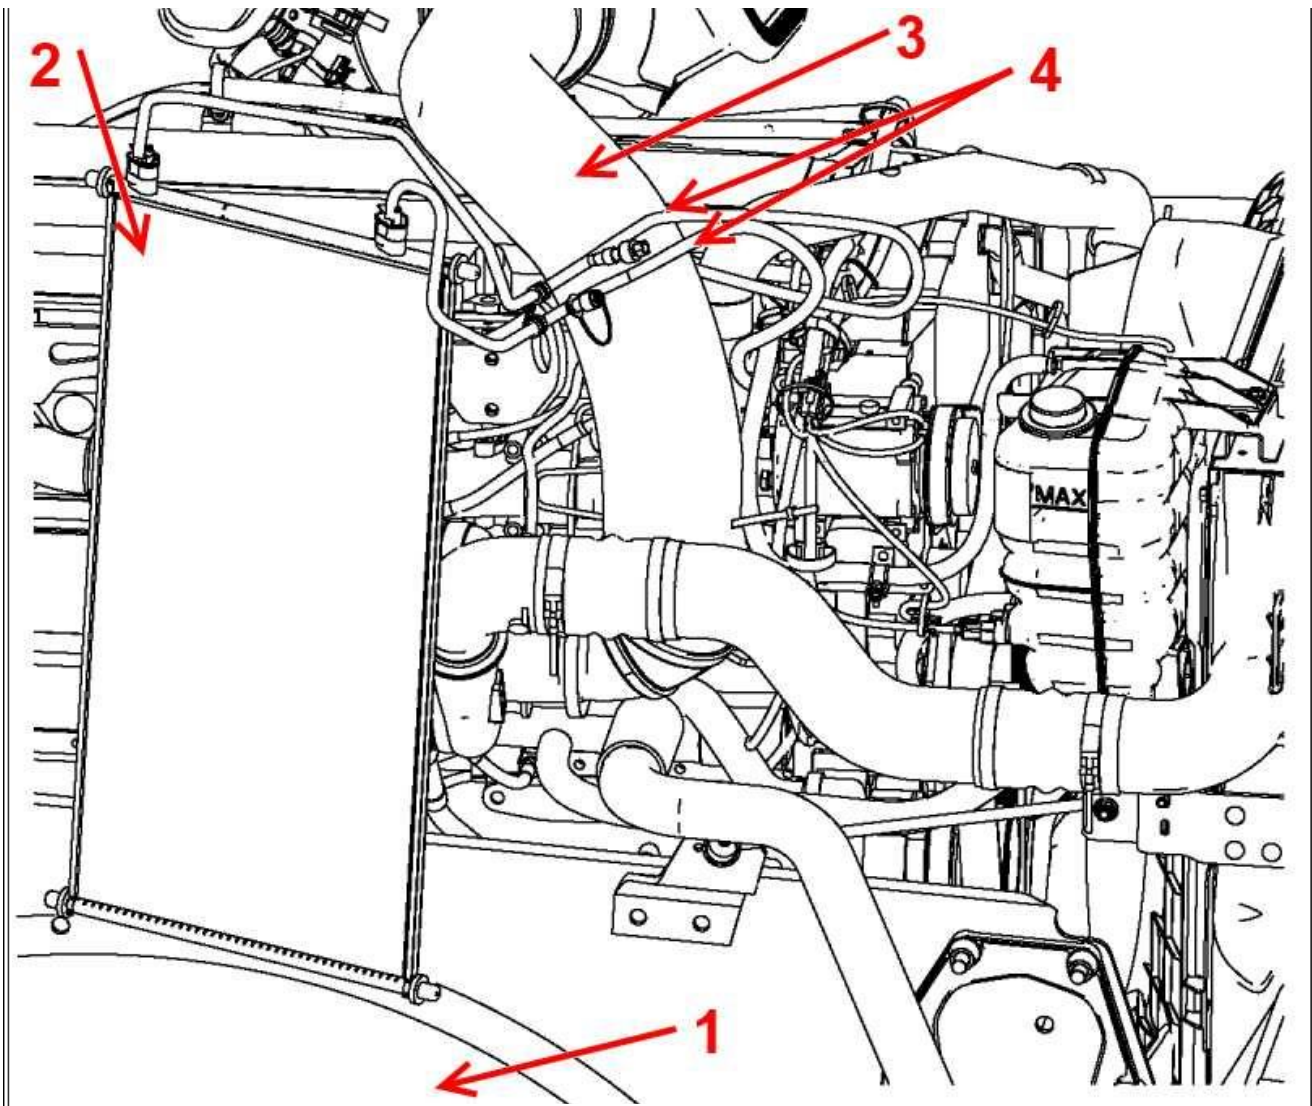

Figure 6: A/C Condenser Repositioning
16. Carefully flip the A/C condenser over the cooling package and rest the driver side on the passenger front tire (**Figure 6**). Secure the A/C lines to the intake pipe using a bungee cord or zip tie.